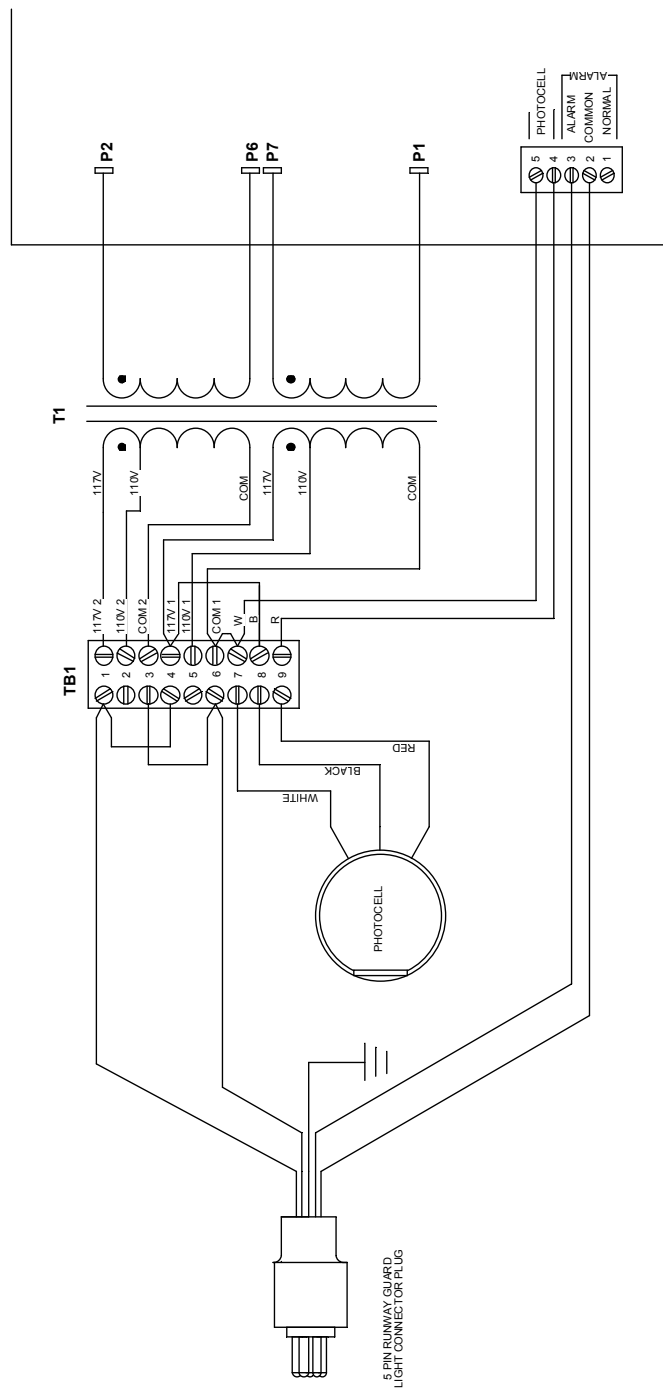

Figure 9-3 Wiring Diagram Mode 2 120V Operation with Monitoring
8. Refer to the connection diagrams in Figure 9-3 to wire the photocell.
9. Make any required changes for the proper operating voltage of the RGL on the terminal block located in front of the power transformer. Refer to the wiring diagrams in Figure 9-3 and 9-4 for the proper connections.